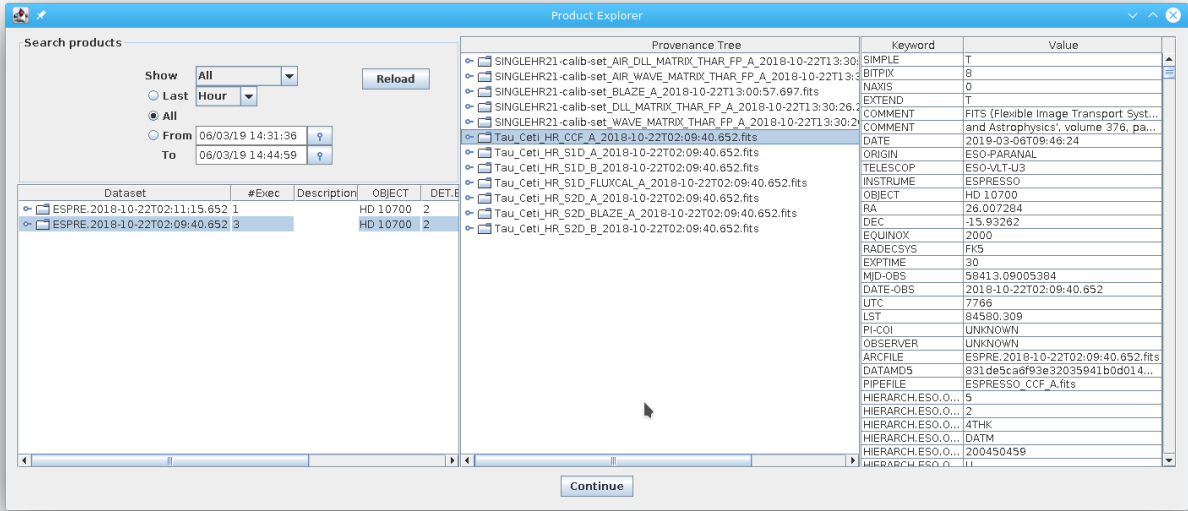

Figure 3.0.4: *The Provenance Explorer shows all datasets reduced in previous executions together with the full reduction chain for all the pipeline products.*
- Once the reduction of all datasets has finished, a pop-up window called *Product Explorer* will appear, showing the datasets which have been reduced together with the list of final products. This actor allows the user to inspect the final data products, as well as to search and inspect the input data used to create any of the products of the workflow. Figure 3.0.4 shows the *Product Explorer* window. A full description of the *Product Explorer* will be presented in Section 6.3.5.